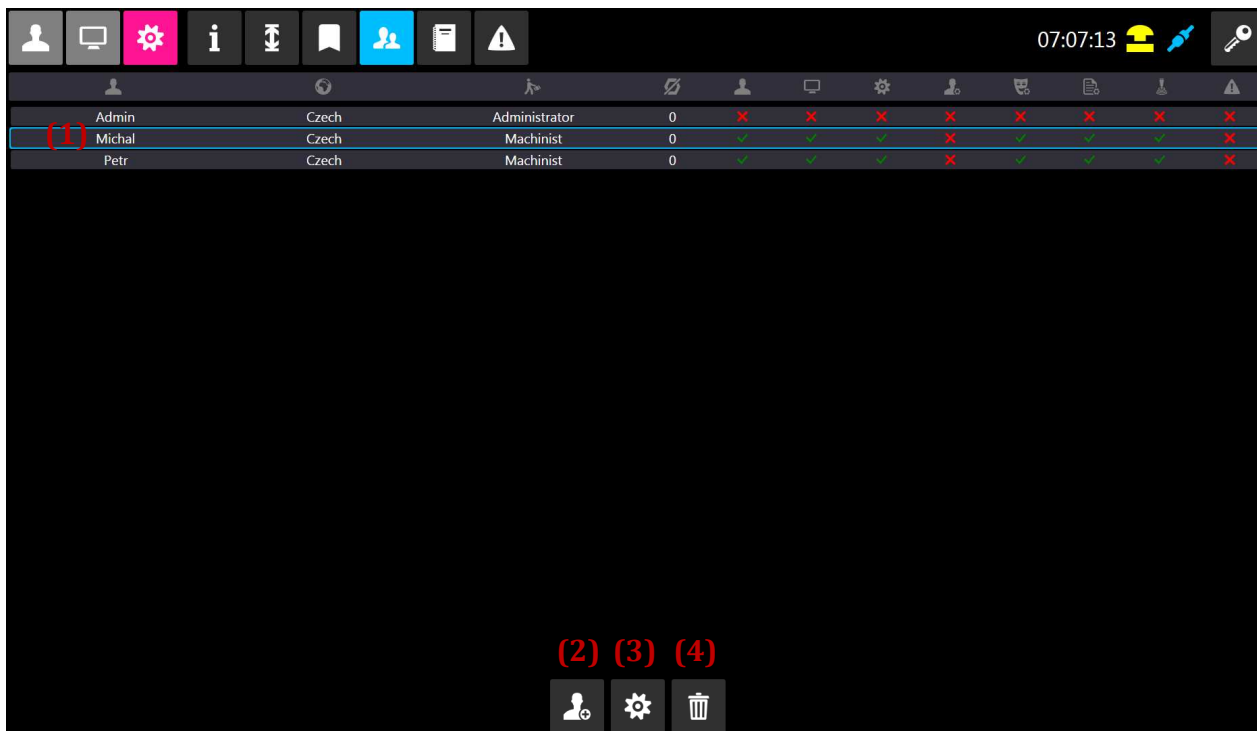

FIG. 53: ADMINISTRATION OF USERS AND RIGHTS
The key (3), see Fig. 53, is used for editing the already existing user. Editing is done using the screen in Fig. 53: User Administration. The user highlighted in the user list (1) will be edited.